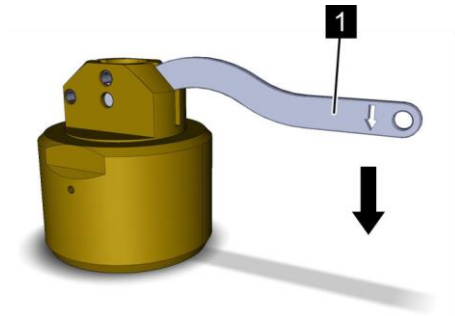

Fig. 165: Hand lever down
3. ➤ Press the hand lever (Fig. 165/1) downward to the stop (Fig. 165/arrow).